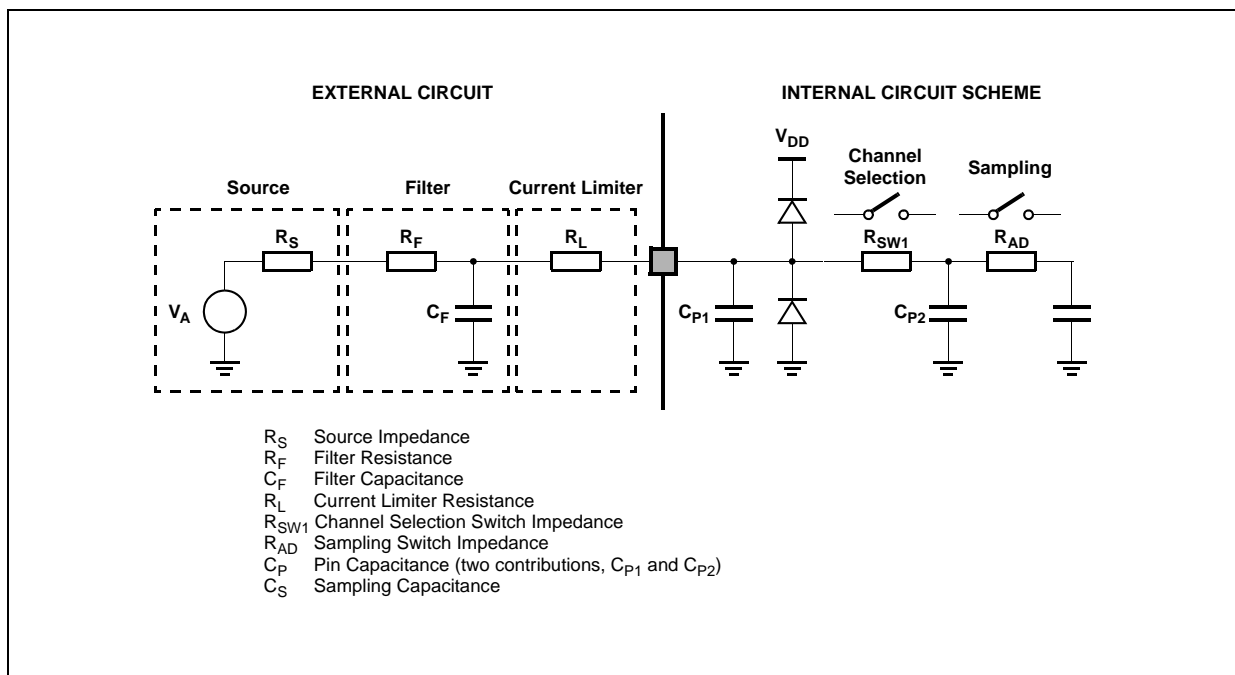

Figure 9. Input Equivalent Circuit
A second aspect involving the capacitance network shall be considered. Assuming the three capacitances C_F , C_{P1} and C_{P2} are initially charged at the source voltage V_A (refer to the equivalent circuit reported in Figure 9): A charge sharing phenomenon is installed when the sampling phase is started (A/D switch close).
- 6 See Figure 9.